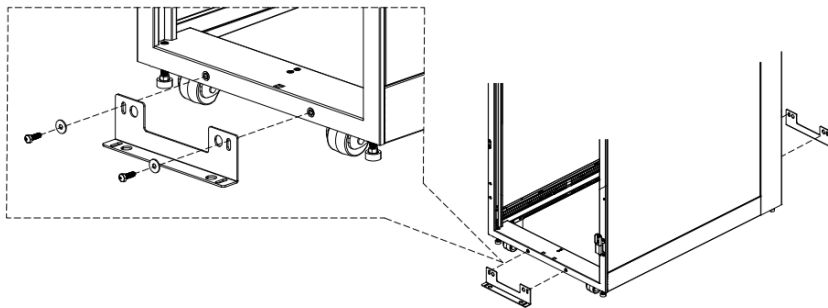

Figure 5.5.1
- Refer to Figure 5.5.1 to install the L bracket when there are casters and leveling feet.